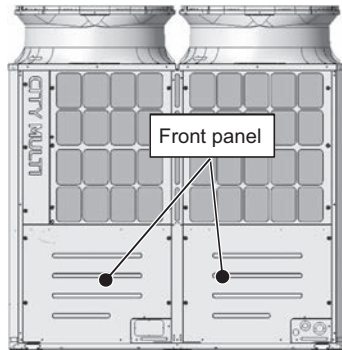

Figure 1
- (1) Remove the front panel from the unit by unscrewing the eight screws. (See Figure 1.) \*Figure 1 shows the unit without the front panel.
- (1) Remove the front panel from the unit by unscrewing the 14 screws. (See Figure 1.) \*Figure 1 shows the unit without the front panel.
- (2) Remove the fin guard by unscrewing the 12 screws. (See Figure 1.)
- (4) Remove the center pillar by unscrewing the five screws. (See Figure 1.)
- (1) Remove the front panel from the unit by unscrewing the 14 screws. (See Figure 1.)